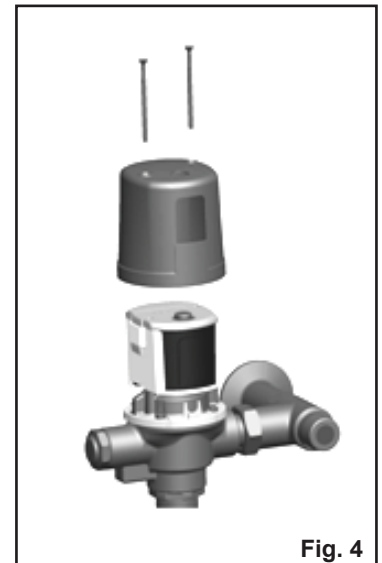

Fig. 4
- Remove the chrome cover by taking out the two cover screws. See Figure 4.